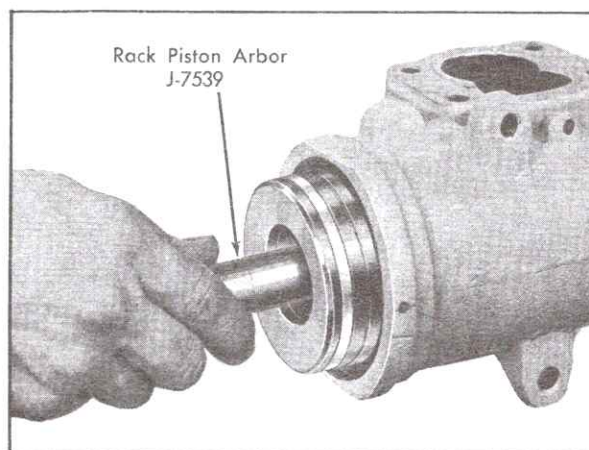

Fig. 9-23 Installing Rack-Piston Arbor Tool in End of Worm
12. Insert Rack-Piston Arbor, J-7539, into rack-piston against end of worm. Turn coupling flange counterclockwise, while holding tool tightly against worm, to force rack-piston on to arbor, and remove rack-piston from gear housing, Fig. 9-23.